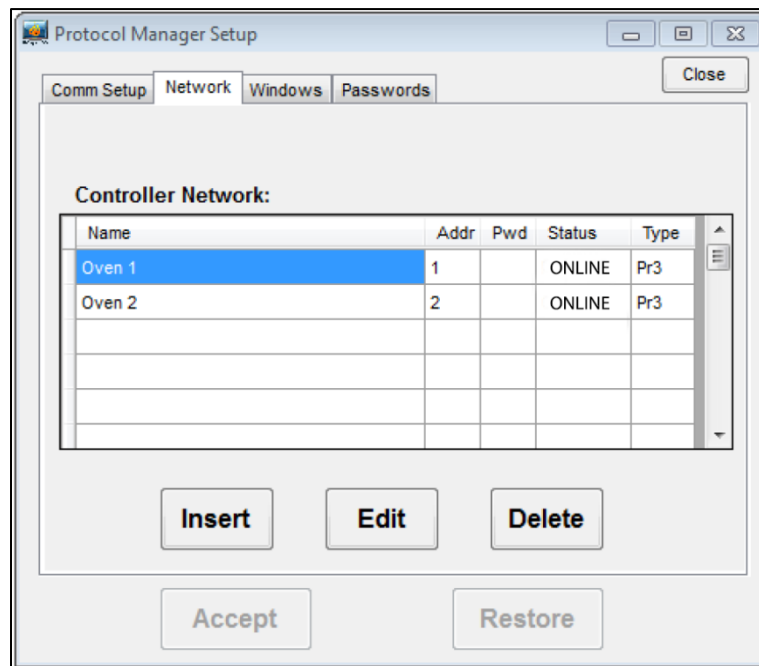
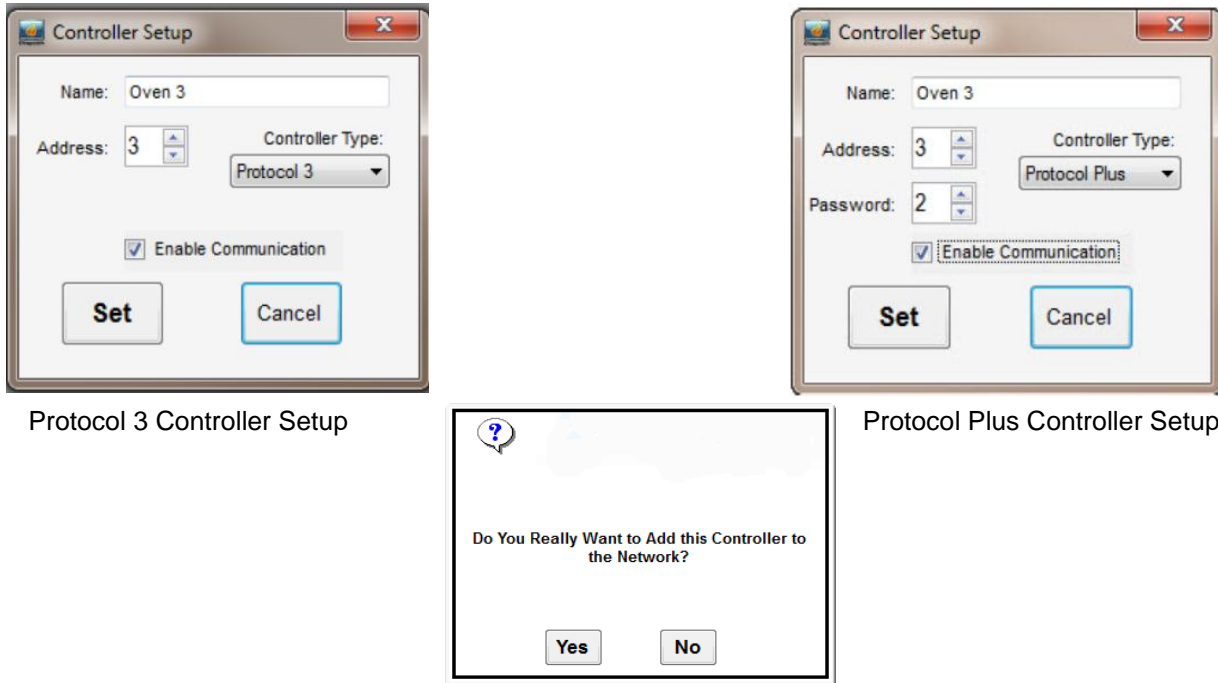

Figure 15. Setting Up Network of Controllers.
Figure 16. Controller Setup Dialogue Windows (complete with reference to Table 2).
1. Click **Window** (above the User ID) and then **Setup** (Figure 12) to display the Protocol Manager Setup Window (Figure 15).
2. Click **Network** to begin adding controllers to the system (Figure 15).
- b. Press **Insert** to display the **Controller Setup** dialogue window (Figure 16).
Enable Communication	Check the box to add the controller to the list of controllers controlled by the software.  Note: If the Controller Network ( Network tab—Figure 15) shows Disabled in the Status column, navigate to the Controller Setup Dialogue Window (Figure 16) and recheck Enable Communication .  If the controller is disabled (by unchecking Enable
Set/Cancel	After entering the desired parameters, click Set save the parameters. Click Cancel to delete changes.  Click Yes in the dialogue window to add the controller to the network (Figure 16).